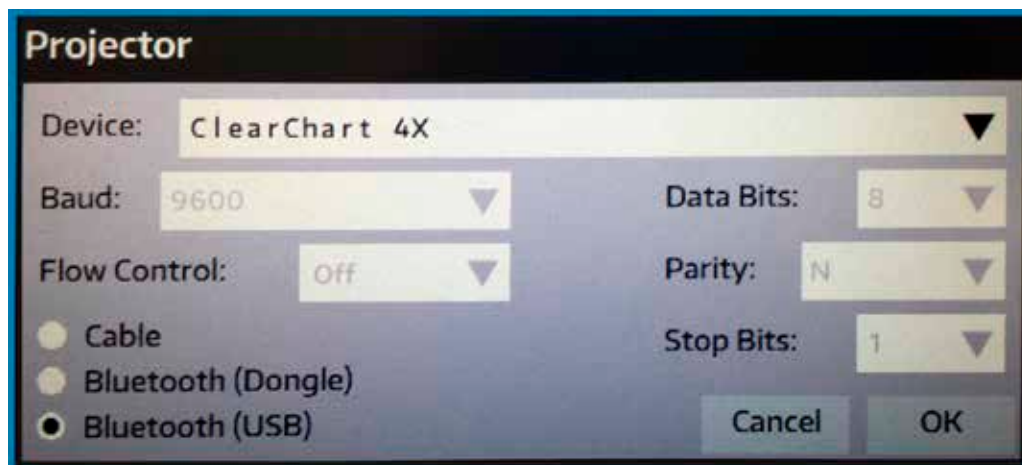

Figure IS-21 Projector
5. On the Projector panel, select the acuity system from the drop-down menu. Refer to Figure IS-21.